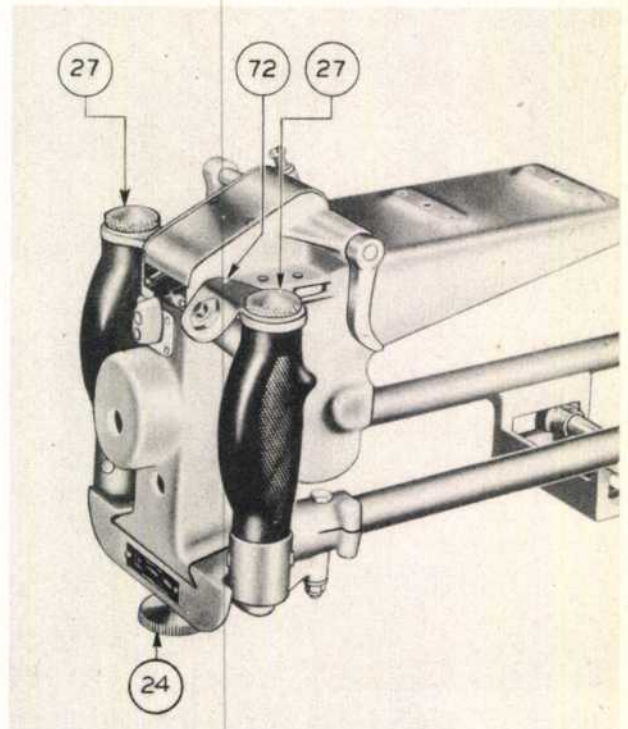

Figure 27—Replacing Microphone Switch
i. Replace back guard assembly in adapter. Assemble microphone switch assembly (72, figure 27) under right handgrip retaining screw. Tighten handgrip retaining screws (27, figure 27) and rear support release knob (24) in rear support.